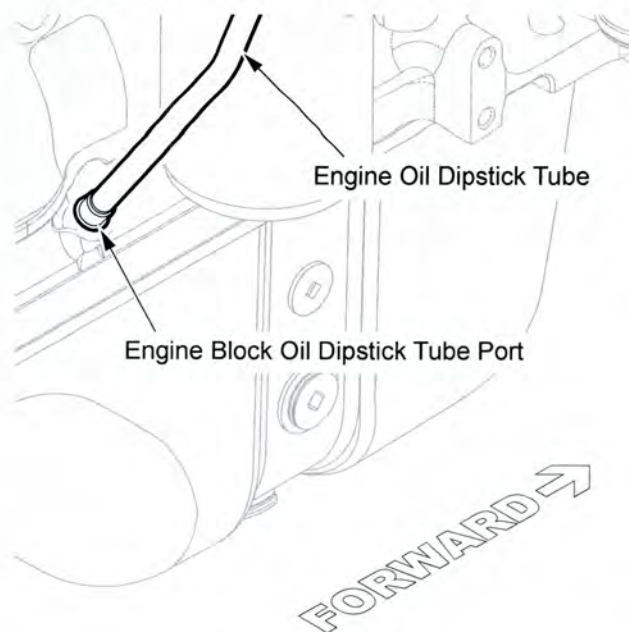

Figure 4
6. Using a pin punch (or other suitable tool) and a hammer, tap the press fitting into the engine block oil dipstick tube port until fully inserted (see *Figure 4*).